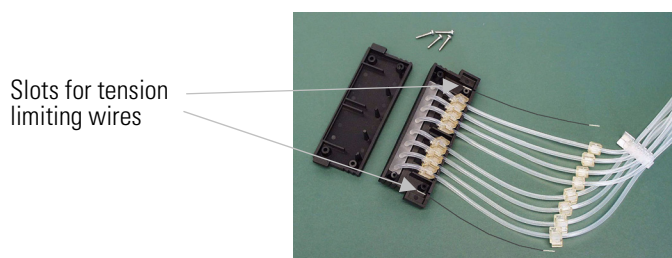

Figure 5-32. Tension limiting wires attached
4. Attach the tension limiting wires into their slots (Figure 5-32).